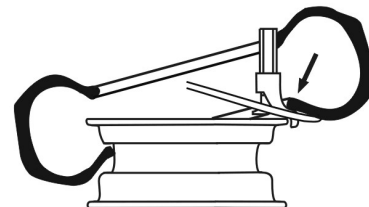

Fig.21
- Repeat the same operation to remove the second bead(Fig. 21)